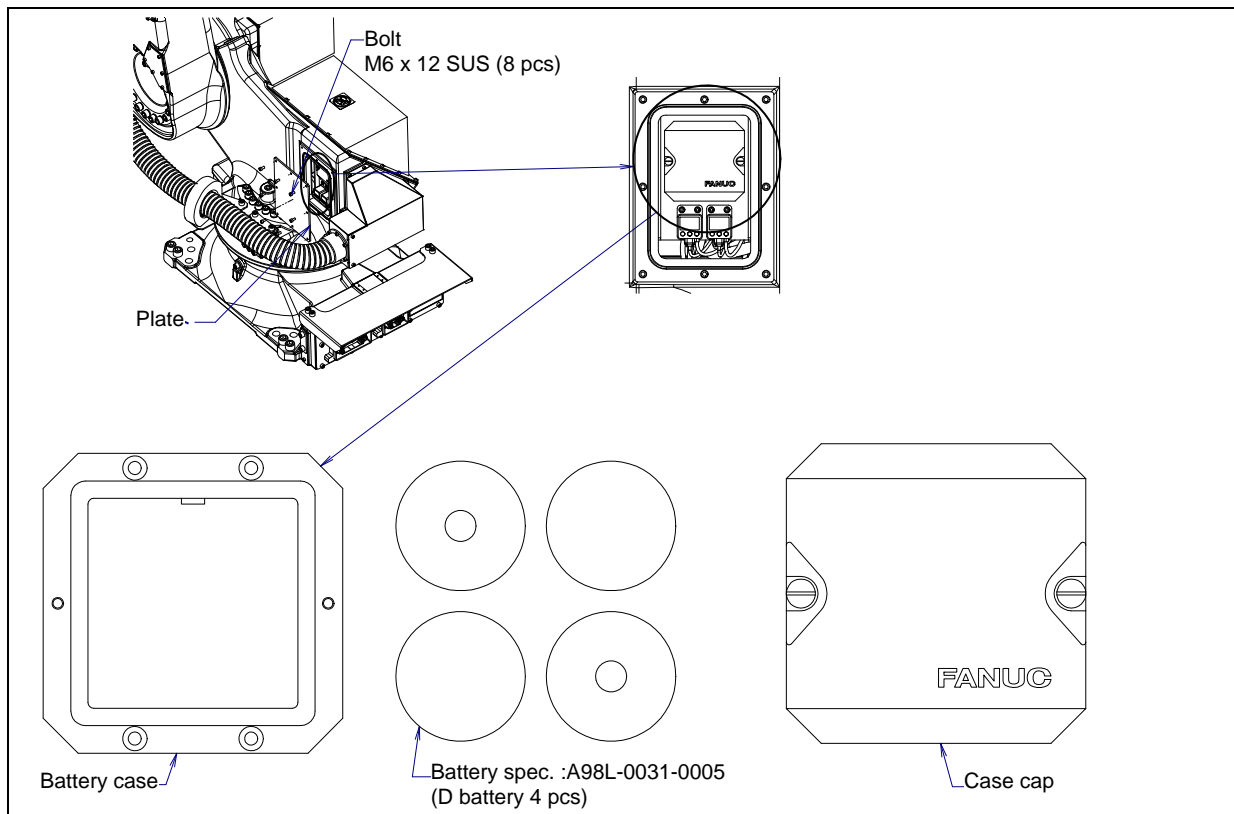

Fig. 7.3.1 (a) Replacing the battery
- 4 Remove the battery case cap. (Fig. 7.3.1 (a))